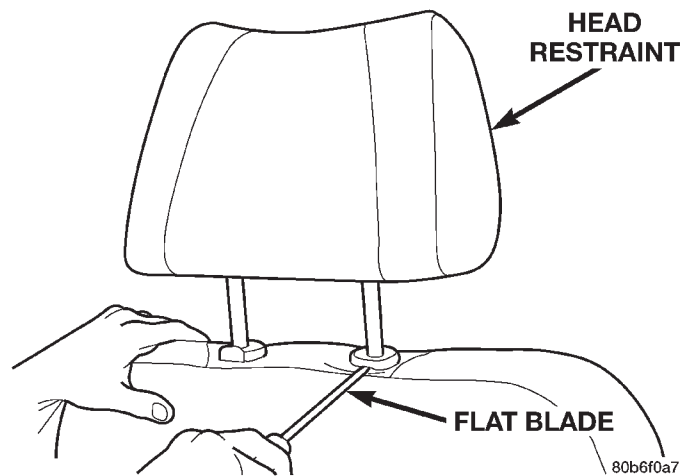

Fig. 14 Head Rest
- (1) Depress head rest release button and lift head rest to full up position.
- (2) Using a small flat blade, depress tab on outboard side head rest release button and using your hand, simultaneously press tab on inboard side head rest release button (Fig. 14) and pull head rest up to separate from seat back.